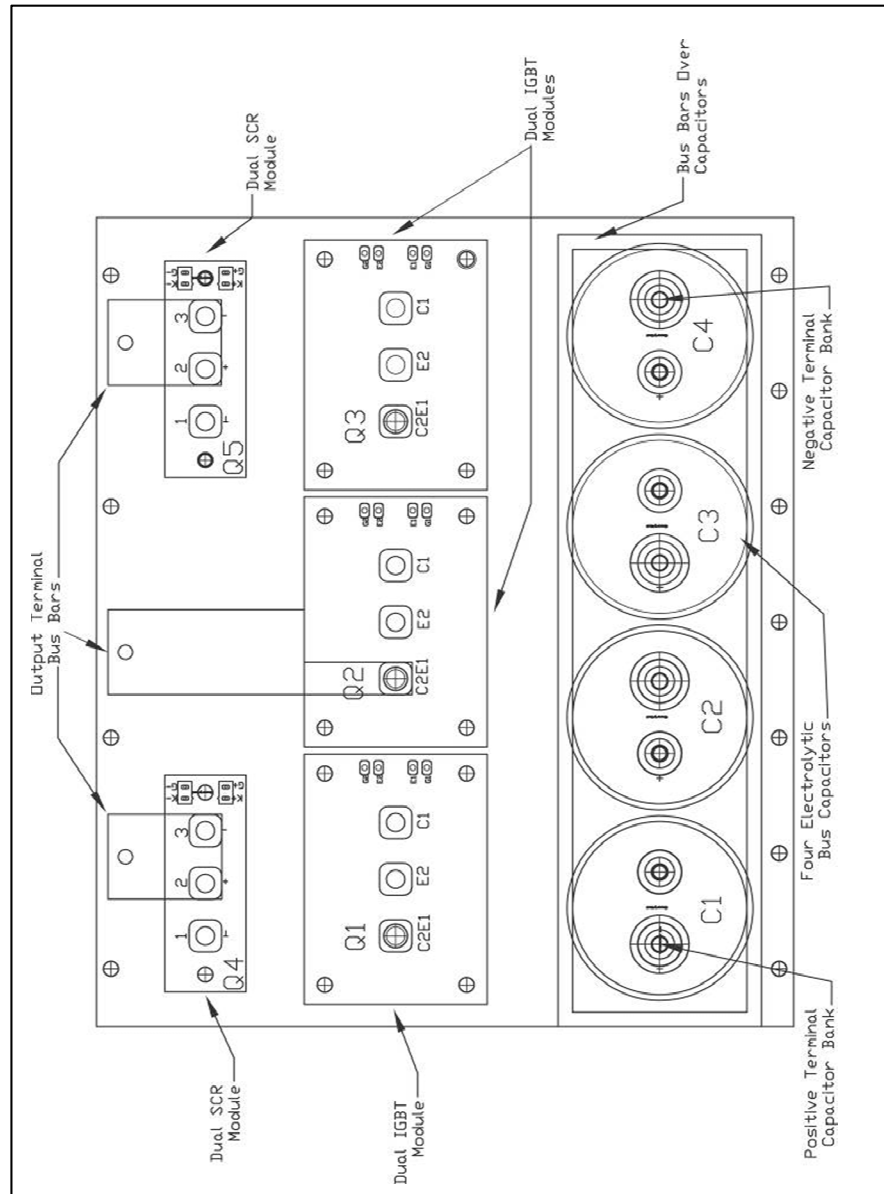

Figure 5.2: (600V) 39, 78 Amp & (480V) 45, 90, 100 Amp Power Component Layout
- Measure resistance of power semiconductors using a multi-meter set on the diode check setting, see **Figure 5.2**. Look for opens, ∞ , or dead short readings. With the red lead of your meter connected to the far right negative terminal of the capacitor bank, measure with the black lead of the meter to each of the three output terminals (bus bars), the reading should be approximately 0.35Ω . Reverse the meter leads and repeat measuring to each terminal. This time a low reading will be present which will continue to increase; this is an indication of a capacitor charging. Next connect the black meter lead to the “positive capacitor terminal” and again measure to each of the output terminals with the other lead; the reading should be approximately 0.35Ω . Reverse the meter leads and repeat measuring to each terminal. Again it will be a low reading which will continue to increase. If the readings are as described, in all likelihood the power semiconductors are good. If any readings are opens or dead shorts it will be an indication that something is bad in the power section. Do not reapply power if you are not sure the IGBTs are good.